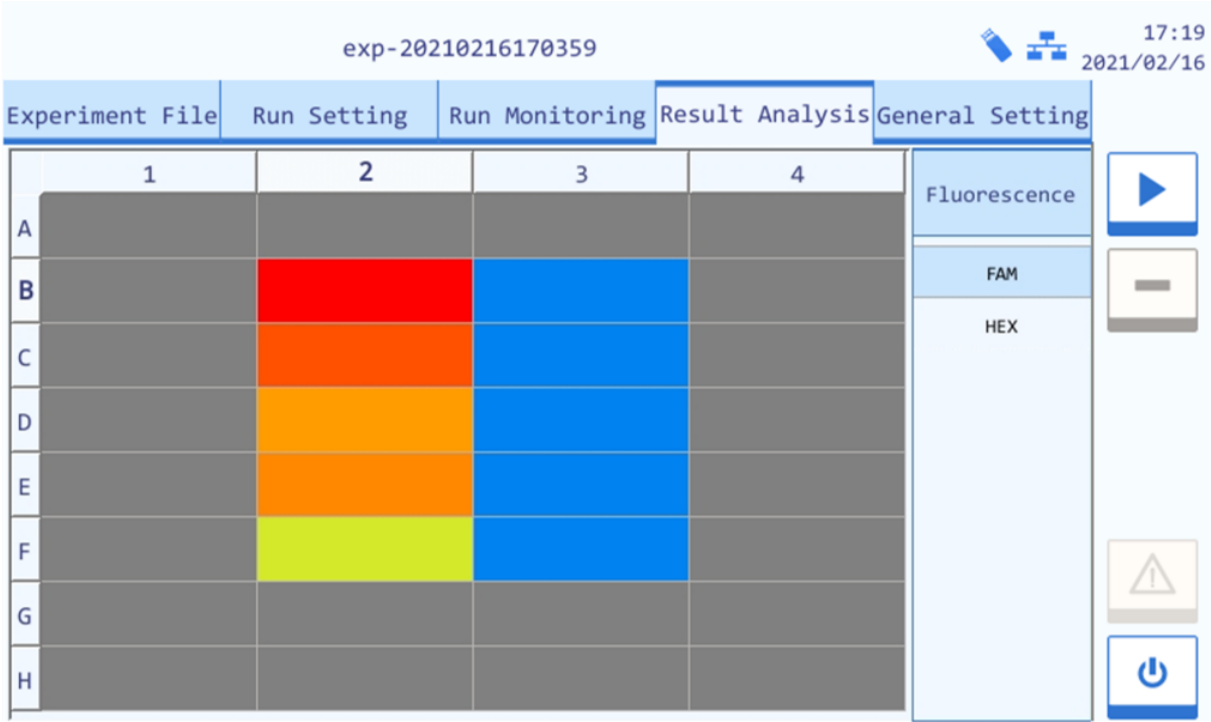

Figure E-5.1. Run Monitoring Diagram - Fluorescence Heat Map
- The result analysis interface displays the fluorescence heat map of the current experiment by default. User can select a dye in the right **Fluorescence** option column to view the corresponding fluorescence heat map, as shown in figure E-5.1.